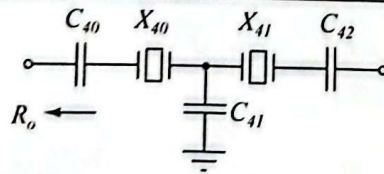

Figure 4: IF Filter schematic.
1. The IF filter of TRC-11 is given in Fig. 4. Start building the filter by placing the crystal X40 and its corresponding series capacitor C_{40} in their places. Solder them. If you found that you do not need a series capacitor, place short-circuiting wire in place of C_{40} .